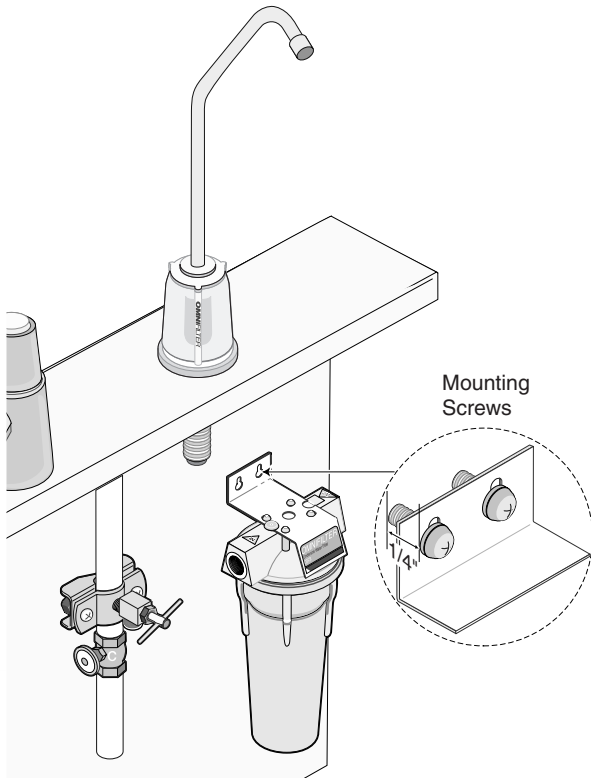

Figure 8
6. Install the filter assembly onto the mounting screws installed in step 2 and tighten the mounting screws. See Figure 8.